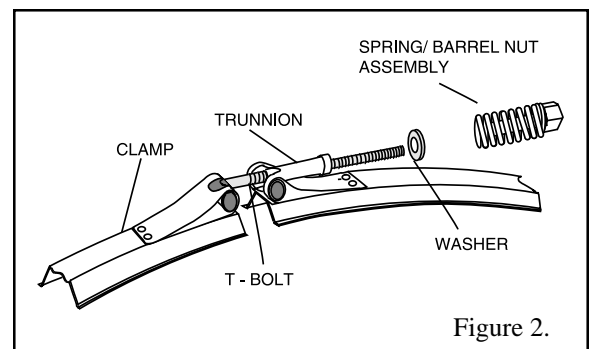

Figure 2.
3. Holding the ends of the filter clamp apart, position the center segment of the filter clamp over both upper and lower tank flanges. Bring the ends of the filter clamp together, while inserting the T-Bolt into the trunnion; see Figure 2.
4. Using Figure 2 as a guide - place washer and the tension-indicating spring/barrel nut assembly on T-Bolt. Hand-tighten nut. Recheck filter clamp for proper seating on tank flanges.